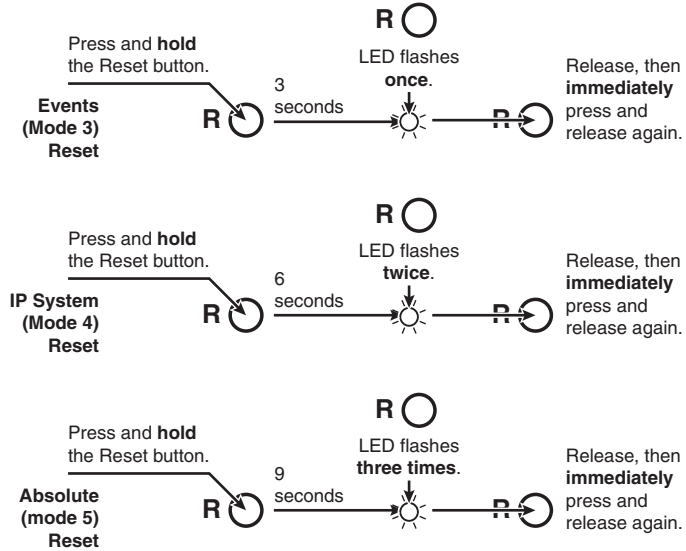

Figure 3-9 — Performing soft resets
1. Press and **hold** the Reset (R) button until the Reset LED blinks once (events reset), twice (IP system reset), or three times (absolute reset) (figure 3-9).